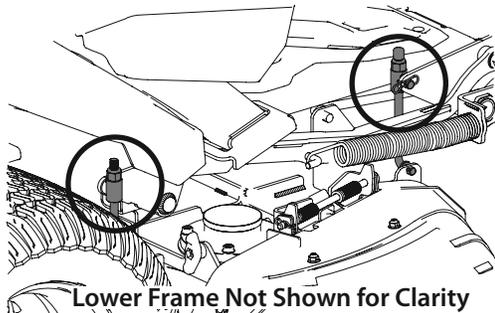

Figure 35
5. Locate the adjustment nuts on top of the deck lift rods on the left and right side of the tractor. There is one on each side at the front of the deck between the platform and lower frame tube, and one at each side of the rear of the deck near the front of the rear wheel. See Figure 35.